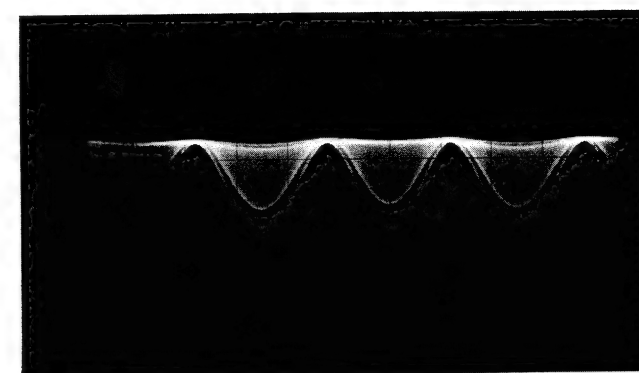
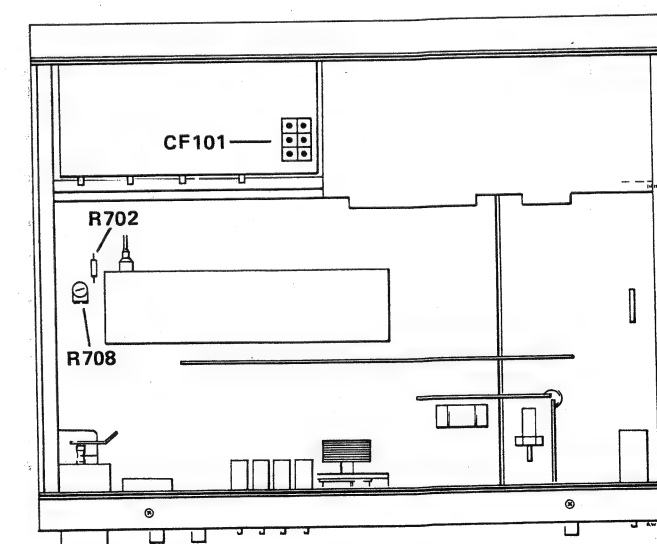

Figure 31 Symmetrical sinewave
Figure 32 Test points
- Fine-tune the tuner for symmetrical sinewave on the oscilloscope (see figure 31).
- Adjust CF101 (Front End, figure 32) for minimum distortion (on the distortion meter) and at the same time maximum d.c.-level and symmetrical sinewave on the oscilloscope (see figure 31).
- Screw R708 fully counterclockwise (see figure 32).
- Connect voltmeter to R702 (see figure 32).